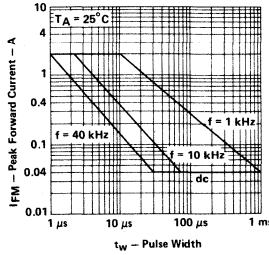

FIGURE 1
2. This value applies for  $t_w \leq 10$   $\mu$ s,  $f \leq 1$  kHz. See Figure 1.